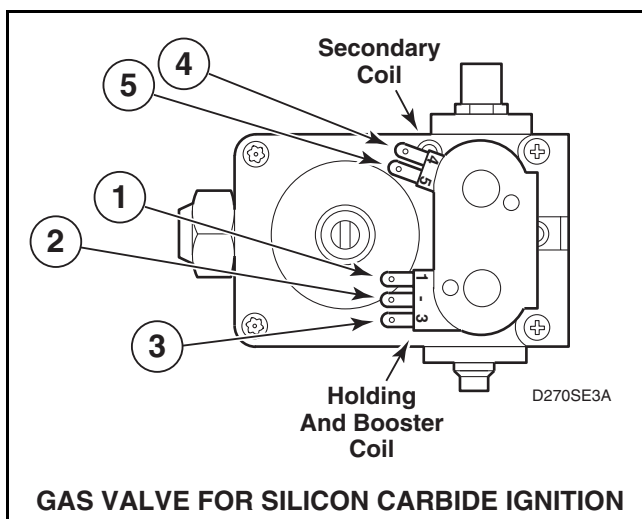

Figure 69
- Remove valve wire harness disconnect block from the holding and booster coil. Refer to *Figure 69*.
- Set test meter to read Ohms and put meter probes to terminals shown in *Figure 69*, and in the following chart.